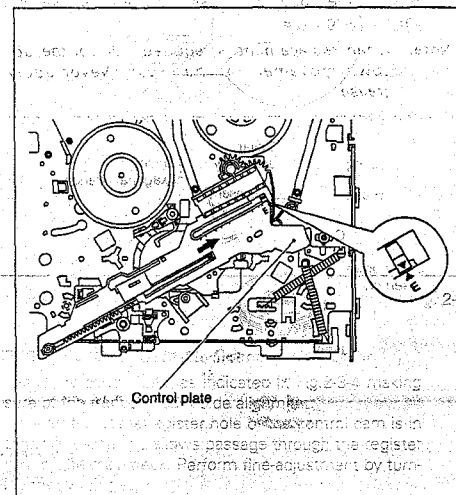

Fig. 2-3-2
(1) With register marks on the both loading arm assemblies in alignment, install the control plate so that the mark ▼ on the loading arm gear shaft is in alignment with mark E of the control plate. (See Fig. 2-3-2)